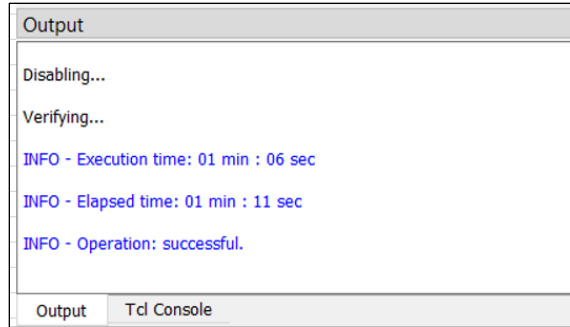

Figure 3.8. Programmer Output Window
- Check the Output console for the status of the programming. You should see **Operation: Successful**, as shown in Figure 3.8.